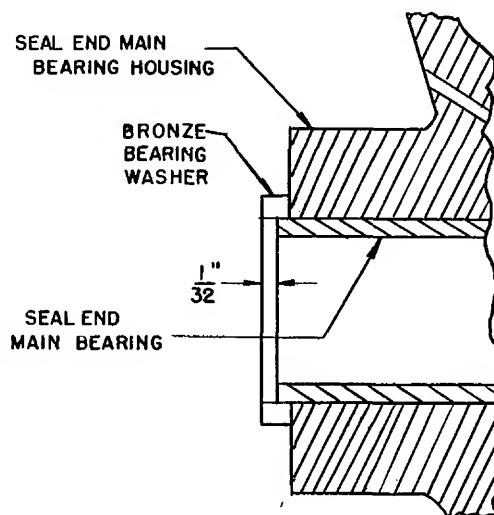

FIG. 44 - SEAL END MAIN BEARING POSITION
3. Pull the bearing into the housing with the puller until it is positioned as shown in Fig. 44. The edge of the bearing is 1/32" below the surface of the bronze bearing washer.